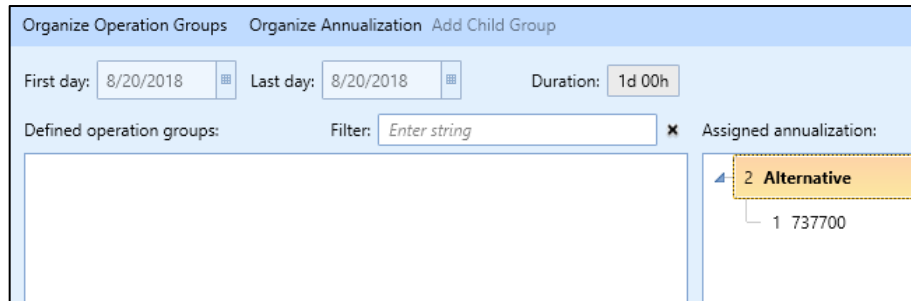

Figure 31. Create Annualization Wizard – Build Annualization
6. Click on the “1” next to the word “Alternative” to edit. Enter number “2” (Figure 31).